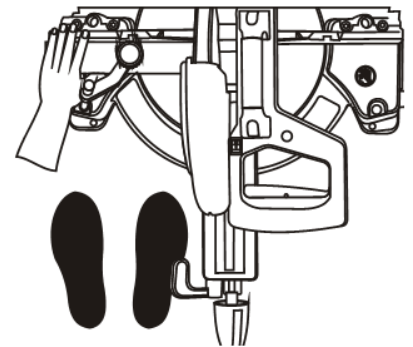

Fig. 21
- Proper positioning of your body and hands will make cutting easier and safer. Keep your face and body to one side of the blade, out of line with a possible debris throwback (Fig. 21).